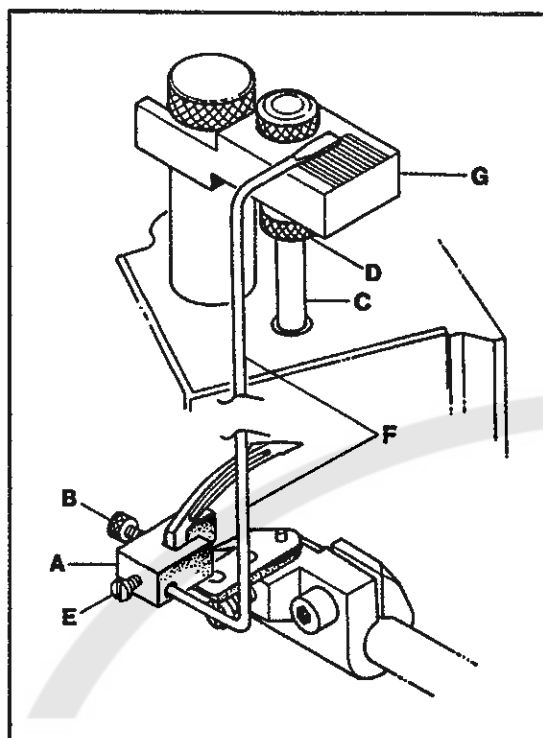
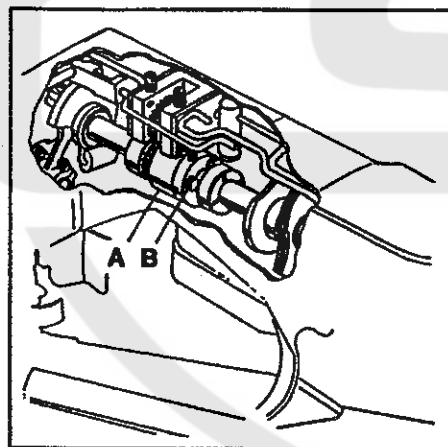

FIG. 9
FIG. 10
Attach the looper clamp and height gauge (A, Fig. 9) to the heel of the looper by tightening screw (B). Turn the handwheel slowly in a clockwise direction until needle bar (C) touches stop screw (D). Loosen screw (E) and set synchronizing gauge rod (F) so the flat end is on one of the lines in the center of the block (G). Tighten screw (E).
Turn the handwheel in the opposite direction until the needle bar touches stop screw (D, Fig. 9). Synchronizing rod (F) should come to the same line on block (G). The difference must not exceed one line.
If the setting cannot be achieved, main shaft coupling (A, Fig. 10) must be repositioned. Remove the crank chamber cover and gasket. Loosen the three coupling screws (B). If synchronizing rod (F, Fig. 9) moves more to the right while the handwheel is rotated in a clockwise direction, the looper is too fast and the main shaft should be retarded. If the rod moves more to the right when the handwheel is rotated in a counterclockwise direction the looper is too slow and the mainshaft should be advanced. Tighten screws (B, Fig. 10).
**NOTE:** If the stationary Knife interferes with the synchronizing rod (F) remove the knife to make the adjustment.